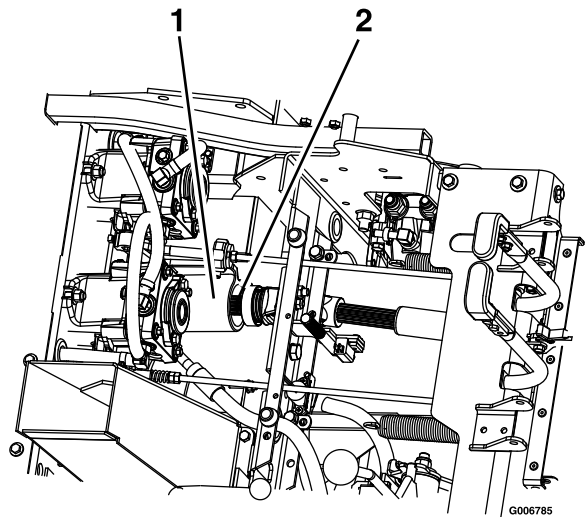

Figure 78
8. Unlatch the seat and disconnect the drive shaft using the quick coupler at the jackshaft (Figure 78).
4. Install the 1 drive shaft onto the jackshaft (Figure 78).